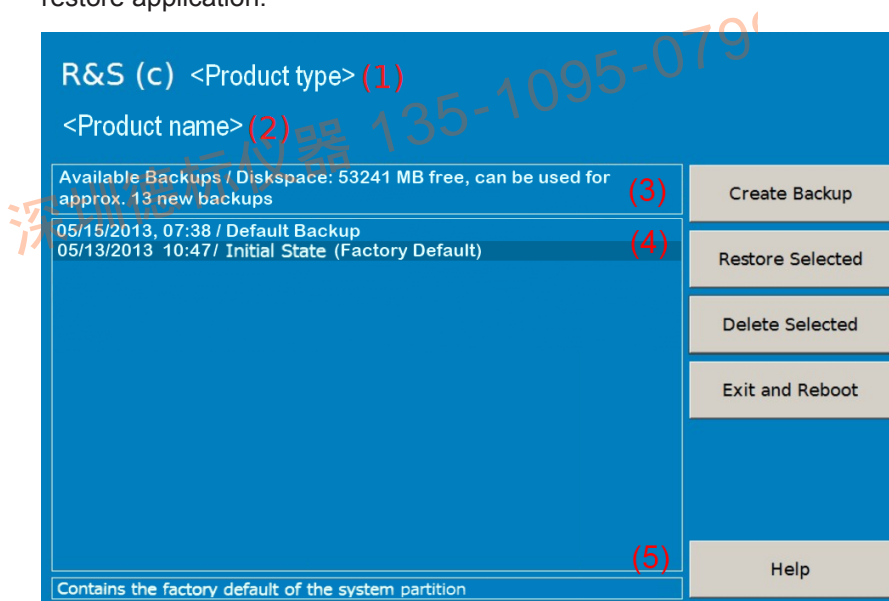

Figure 8-2: Backup and restore main dialog (example)
1. In the main dialog (see Figure 8-2), select "Create Backup".
1. In the main dialog (see Figure 8-2), select the backup you want to restore.
1. In the main dialog (see Figure 8-2), select the backup you want to delete.